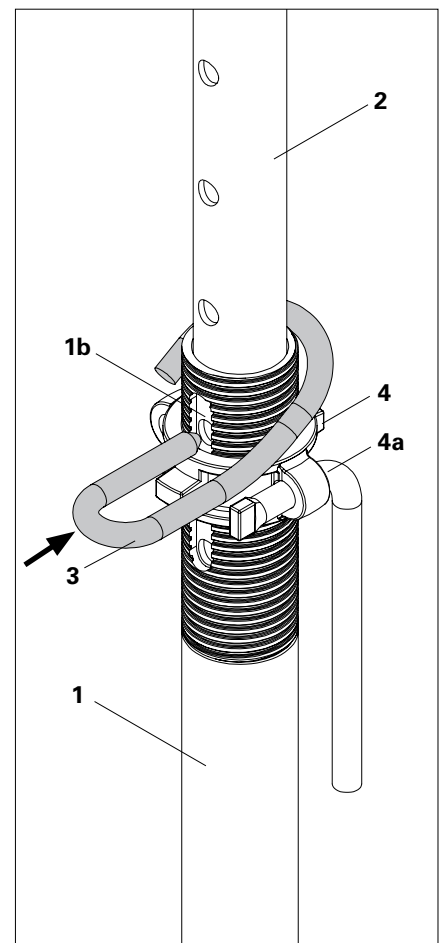

Fig. A1.01a
3. Insert the G-Hook (3) into the visible hole and slide through the inner tube. (Fig. A1.01a)
4. Turn adjusting nut (4) with grip (4a) to the required size. (Fig. A1.01a)